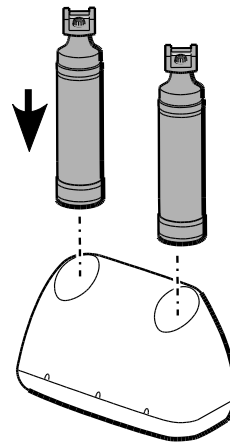

Figure 5
2. After initial cleaning and disinfection, place assembled handle(s) in charging well(s). See Figure 5. The charger's yellow indicator LED illuminates, indicating that the handle is charging. The indicator LED is located directly under the handle well.